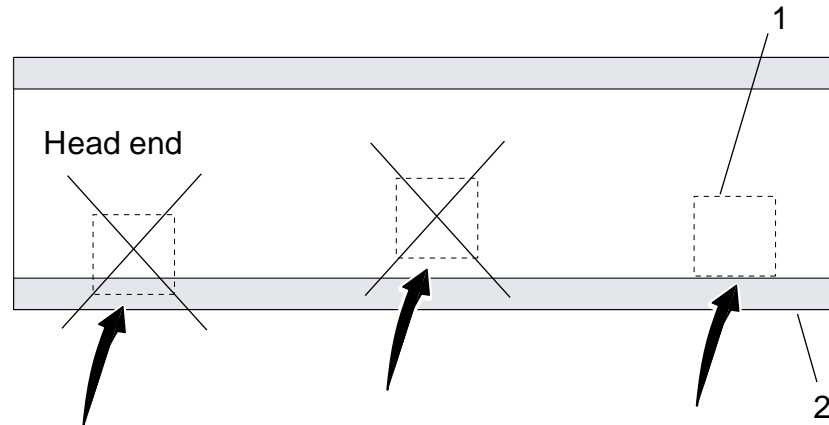

Fig. 4-103
4. Move the OTC forward/backward along the table frame. The border of the light field must not move from the border of the table frame, see Fig. 4-103 .